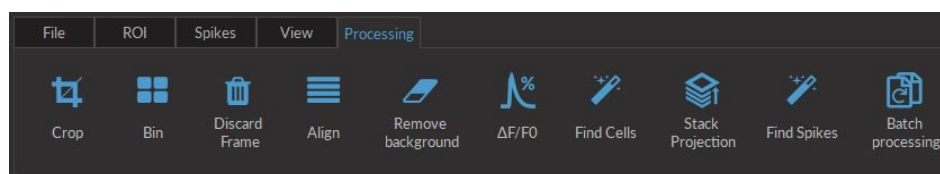

Figure 5.6: Processing Tab
5. The **Processing tab** (Fig. 5.6) is used to process the image data.